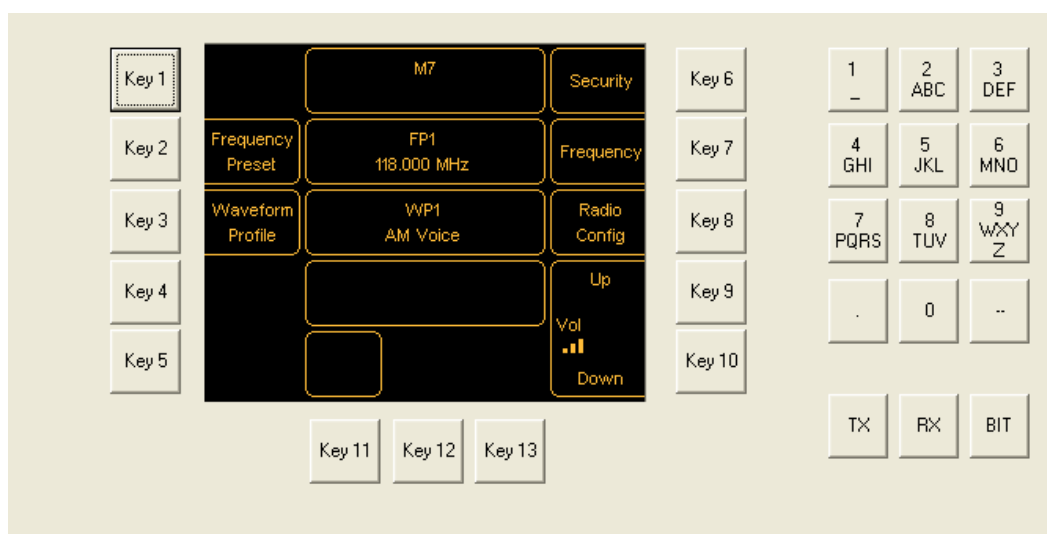
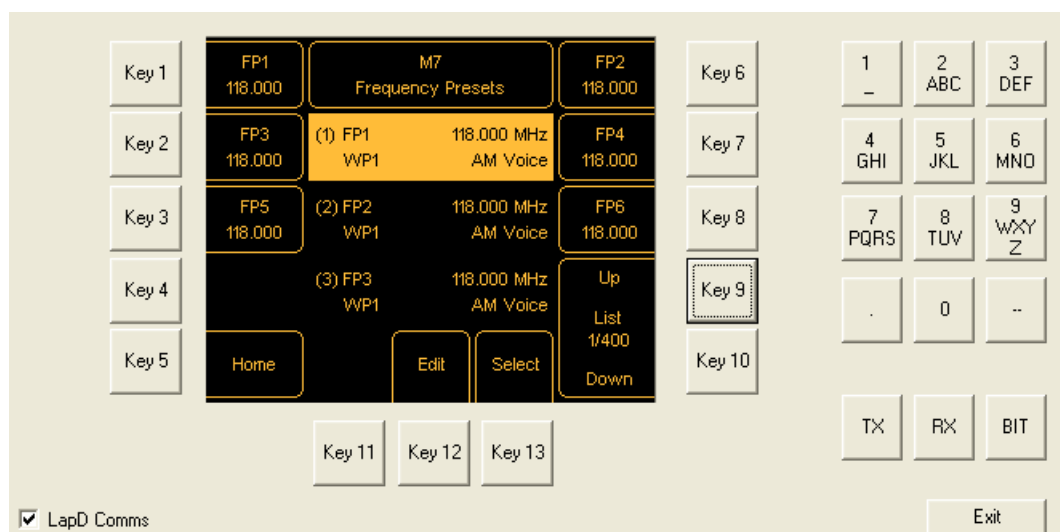

Fig 3-39 Home Screen
Fig 3-40 List of Frequency Presets
- (1) From the Home screen (Fig 3-39) press *Key 2* to display the list of frequency presets (Fig 3-40).